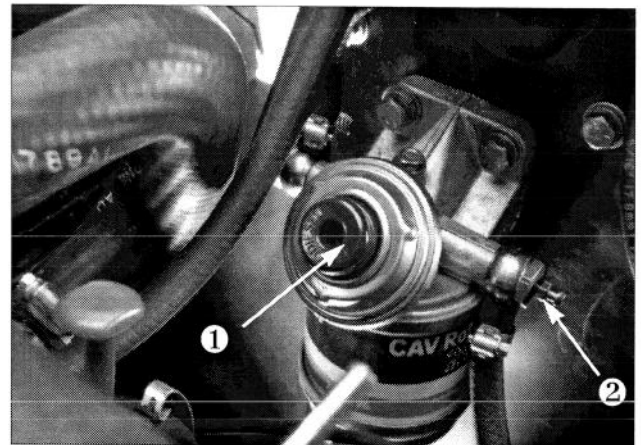

Figure 19
## Priming The Fuel The System (Fig. 19 & 20)
3. Loosen the fuel filter/water separator bleed screw (Fig. 19) a few turns. Pump the priming plunger until a steady stream of fuel comes out of the hole in the bleed screw. When fuel stops foaming, tighten the bleed screw during the down stroke of the priming plunger. Wipe up any spilled fuel.